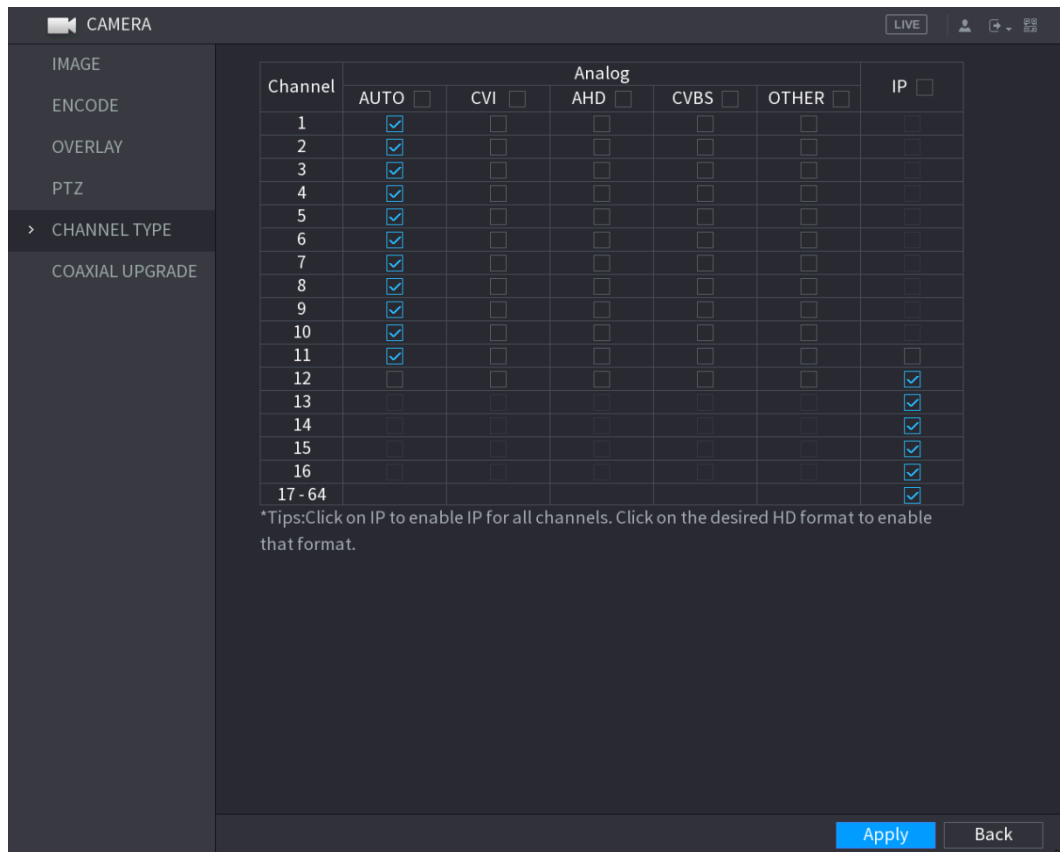

Figure 5-68
The **CHANNEL TYPE** interface is displayed. See Figure 5-68.
- IP Channel: You can enable the IP channels by disabling the corresponding analog channels. The Device also provides expanded IP channels for your use, such as the **17–64** channels in Figure 5-68.